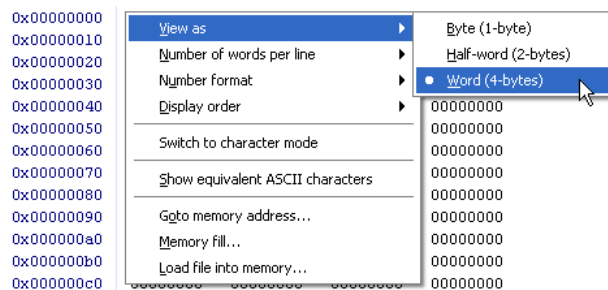

Figure 31. **View as** menu used to select the memory element size in the **Memory** window.
- Memory element size: the display can format the memory contents as bytes, half-words (2-bytes), or words (4-bytes). This can be configured from the context menu accessible by right-clicking on the **Memory** window, as shown in Figure 31.